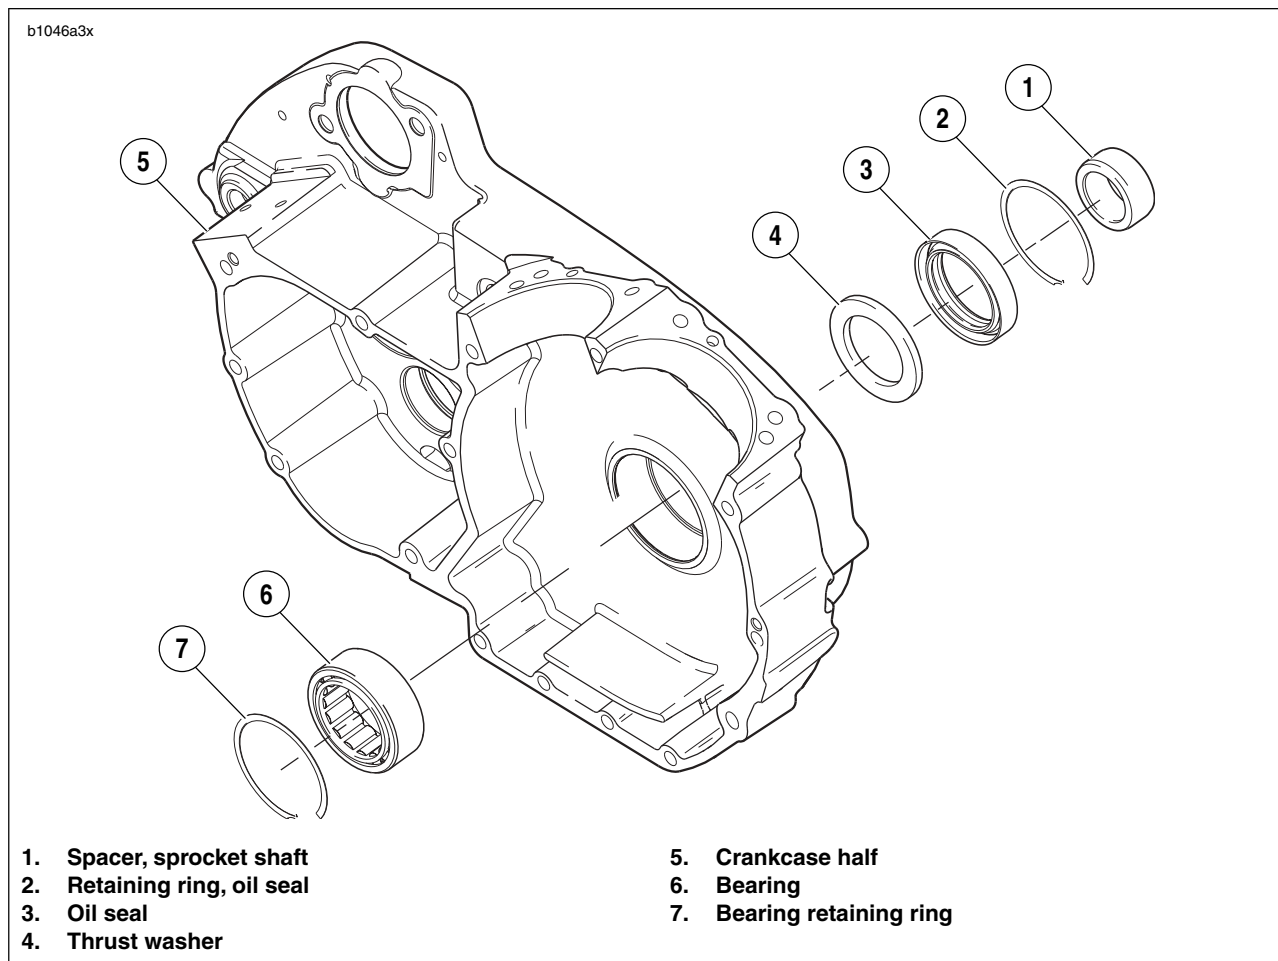

Figure 3-150. Left Main Bearing Assembly
8. See Figure 3-150. Install thrust washer (4) from the outside against the left main bearing.
9. Install **new** spacer (1) in seal ID. With the thin (lipped) side facing outward, center seal/spacer assembly over bearing bore.